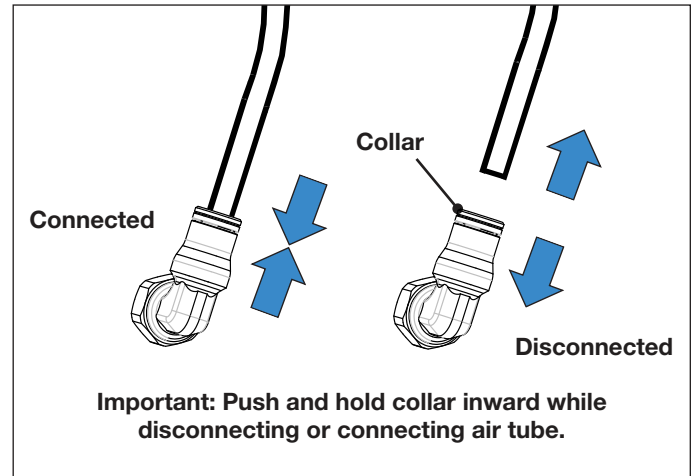

Figure 12: Air Tube Connections
**NOTICE** See Figure 12 for air tube connection details. To release each air tube, firmly press down on the connector collar and pull the air tube outward. Disconnect tubes only at locations shown. Tubes are color coded for identification purposes.